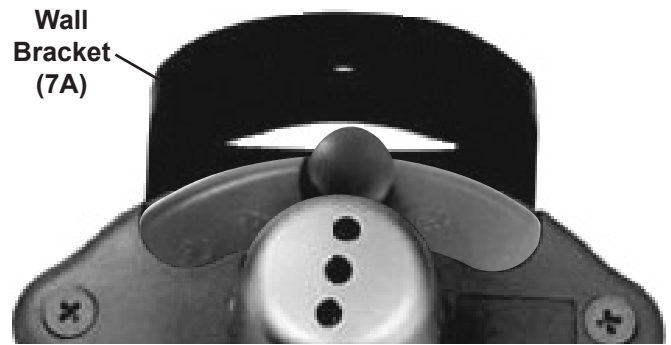

Figure 4
3. Use a pencil to mark drill holes through the Wall Bracket (7A). See Figure 4, below.